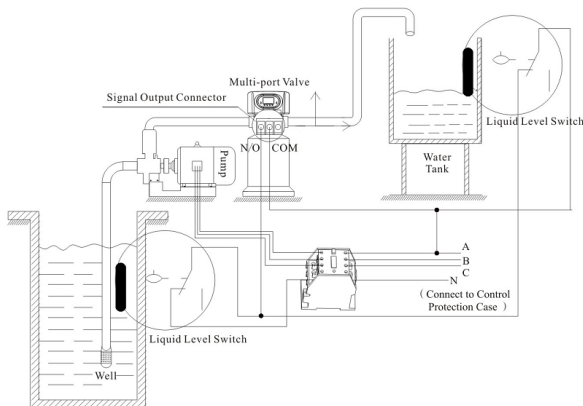

Figure 3-6 Wiring of Liquid Level Controller Controlling 380V Inlet Pump
3).Liquid Level Switch in Water Tank Controls Inlet Pump (Three-phase, Figure 3-6) (Set b-01)